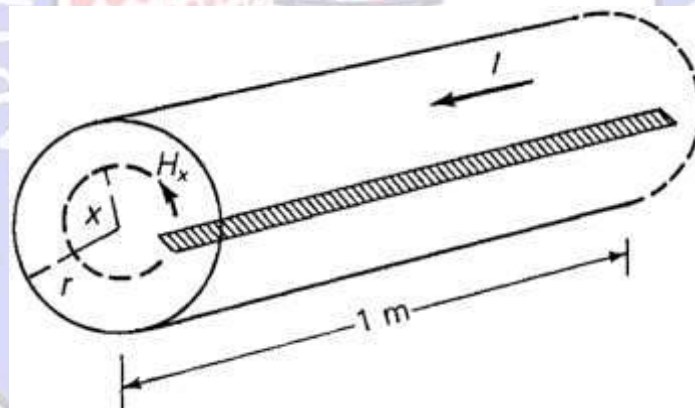

Fig. 12:
- Figure 12 shows a 1-meter section of a solid cylindrical conductor with radius  $r$ , carrying current  $I$ .
- For simplicity, assume that the conductor: (1) is nonmagnetic ( $\mu = \mu_0 = 4\pi * 10^{-7}$  henry/meter), (2) has a uniform current density (skin effect is neglected).
- To determine the magnetic field intensity ( $H_x$ ) inside the conductor, select the dashed circle of radius  $x < r$  shown in Fig. 12 as a closed path.